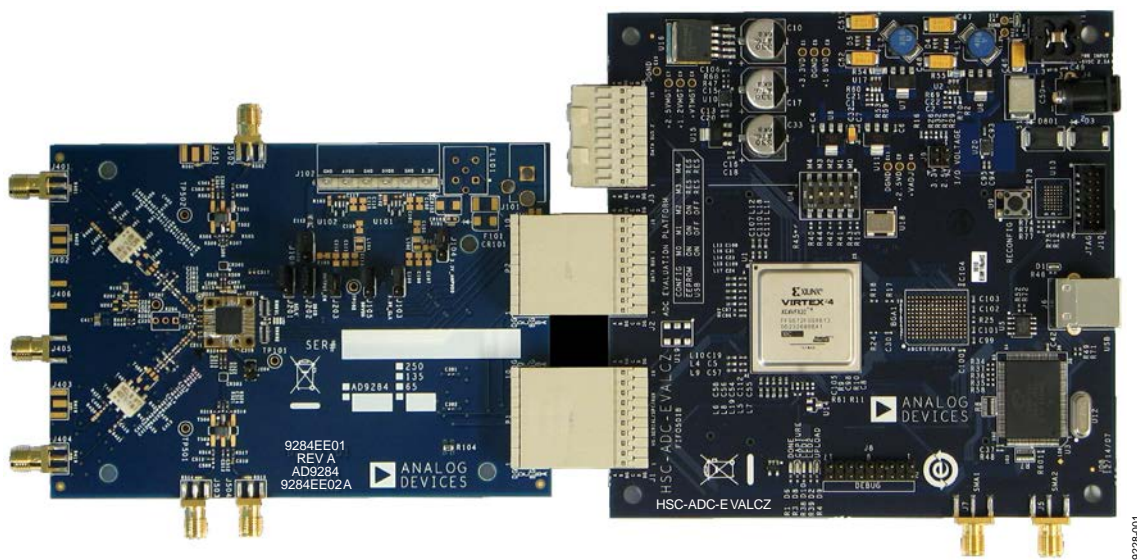
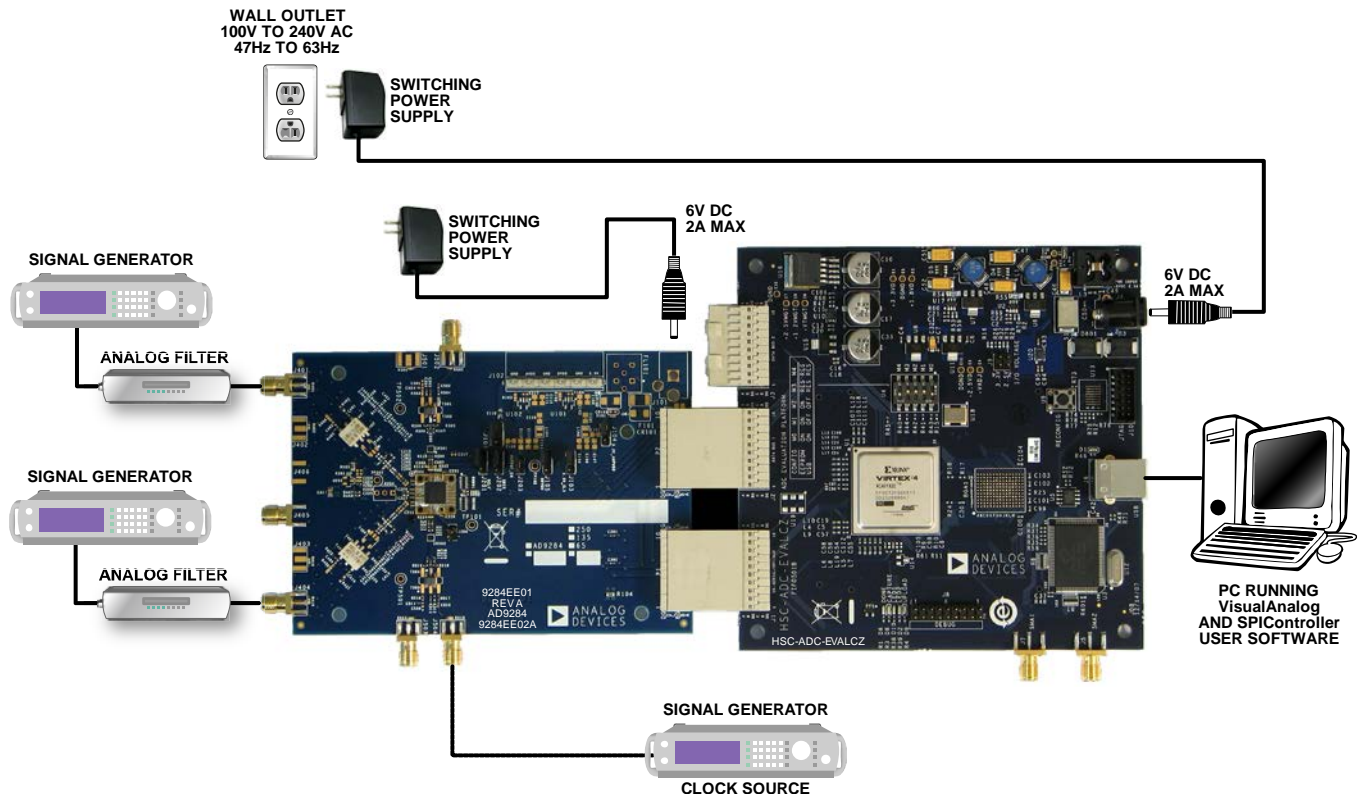

Figure 1. **AD9284** Evaluation Board and HSC-ADC-EVALCZ Data Capture Board
Figure 2. Evaluation Board Connection
The AD9284 evaluation board provides all of the support circuitry required to operate the AD9284 in its various modes and configurations. Figure 2 shows the typical bench characterization setup used to evaluate the ac performance of the AD9284. It is critical that the signal sources used for the analog input and clock have very low phase noise (<1 ps rms jitter) to realize the optimum performance of the signal chain. Proper filtering of the analog input signal to remove harmonics and lower the integrated or broadband noise at the input is necessary to achieve the specified noise performance.
1. Connect the evaluation board to the data capture board, as shown in Figure 1 and Figure 2.